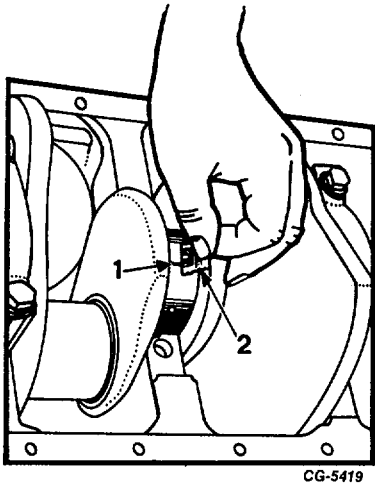

Fig. 126 Checking Main Bearing Clearance
5. Do not disturb Plastigage. Using the Plastigage envelope, measure the widest point of the Plastigage, Figure 126. This reading indicates the bearing clearance in thousandths of an inch.